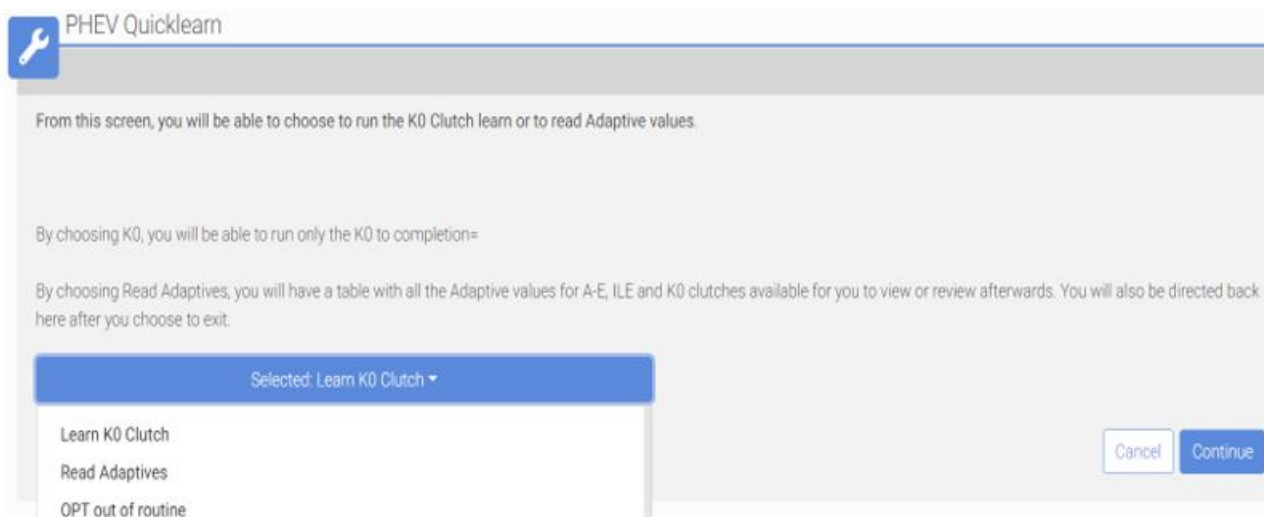

Fig. 1
6. Using wiTECH, record the K0 Filling Counter and K0 Fast filling Counter. This can be found in Transmission Control Module (TCM) Misc Functions in PHEV Quicklearn, Read Adaptives (Fig. 1).